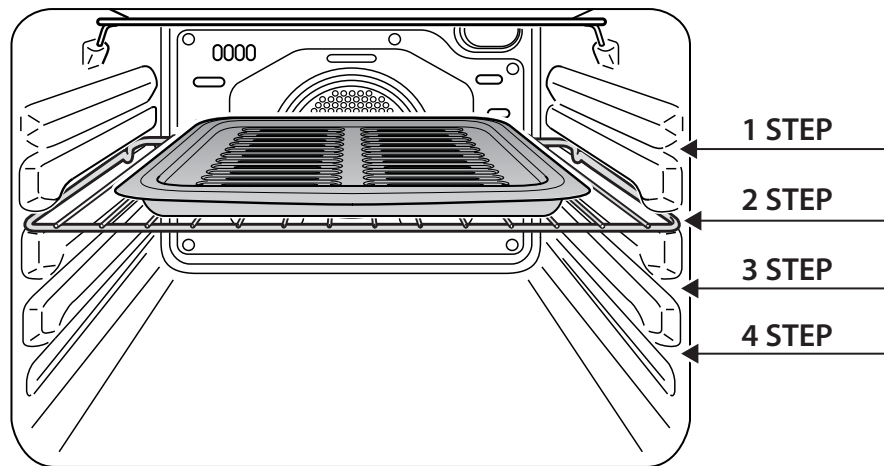
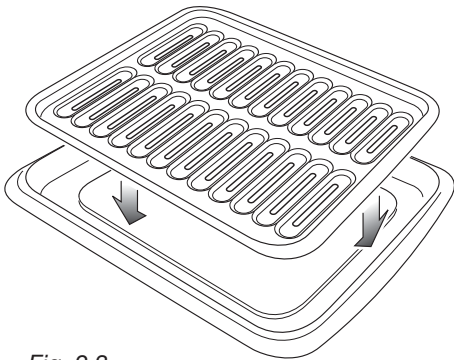

Fig. 2.2
Fig. 2.3
- Position the shelf on the first or second level from the top (fig. 2.2).
- Introduce the broiler tray (fig. 2.3) in the oven. The broiler tray should be placed above the shelf and it should be centered with the broil element (fig. 2.2).